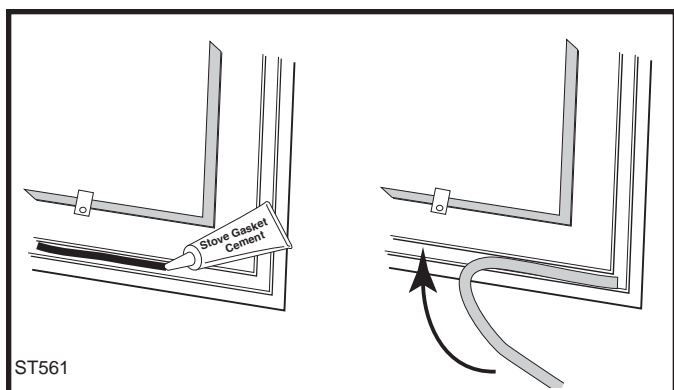

Fig. 35 Lay a bead of gasket silicone or cement then press gasket in place.
5. Lay an unbroken 1/8" (3 mm) bead of silicone or cement in the newly-cleaned channel. (Fig. 35)
6. Starting at one end, press the gasket into the channel. (Fig. 35) Ensure a good joint where the gasket meets before trimming any excess. Do not overlap the gasket ends or leave ends with ragged edges.